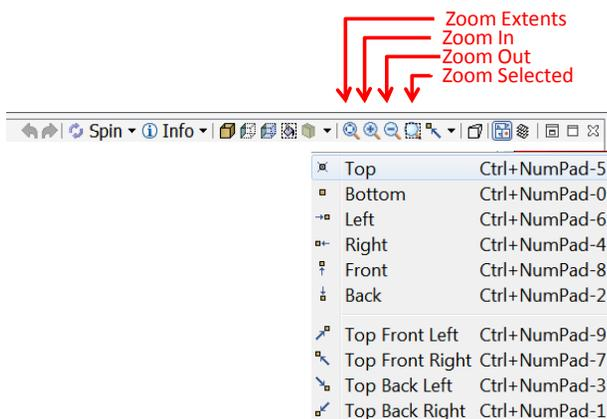

Figure 26 3D view toolbar – Zoom and viewpoints
**Bottom, Top Front Left** etc. from the small triangle on the right side of the **Main Views** icon. This view will be the default and it is used when you click the **Main View**. You can **zoom** the model also by **rolling your mouse wheel**. And if you keep your **mouse wheel down**, you can **pan** the model (see Figure 26).